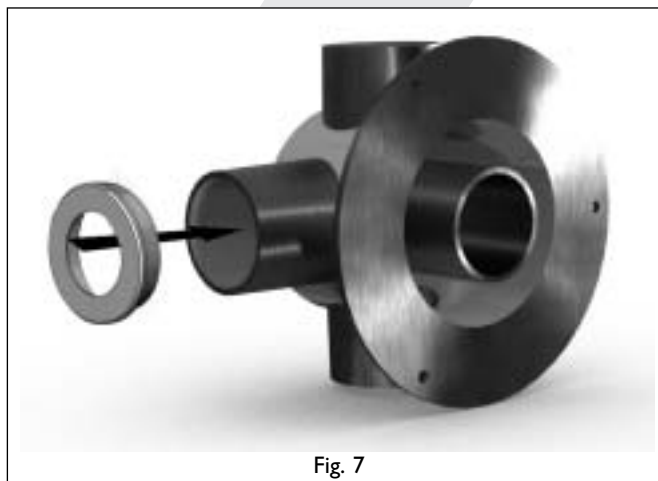

Fig. 7
At the 12kW and 16kW versions, the restriction – if necessary – will be placed in the flue gas discharge connection of the manifold, with a heat-resistant sealant (see fig. 7).
- If necessary, attach the restriction in the flue gas discharge connection of the manifold with the supplied heat resistant sealant; see Table 2; see fig. 7.